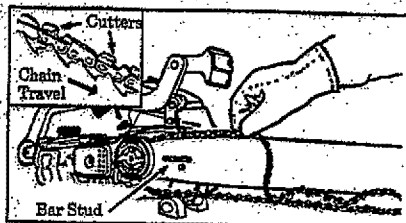

Figure 9
4. Hold the chain with the cutters facing as shown in Figure 9 (inset).
8. Start at the top of the bar and fit chain drive links into the grooves around the guide bar. Figure 9.